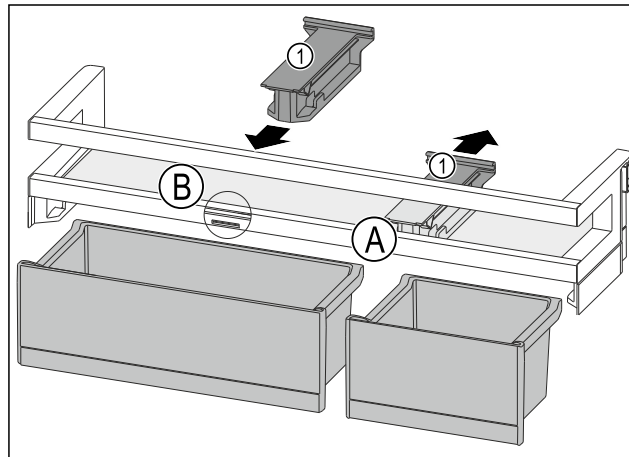

Fig. 168
- ▶ Take off the holding part Fig. 168 (1) in position Fig. 168 (A) backwards.
- ▶ Insert the holding part Fig. 168 (1) in position Fig. 168 (B).